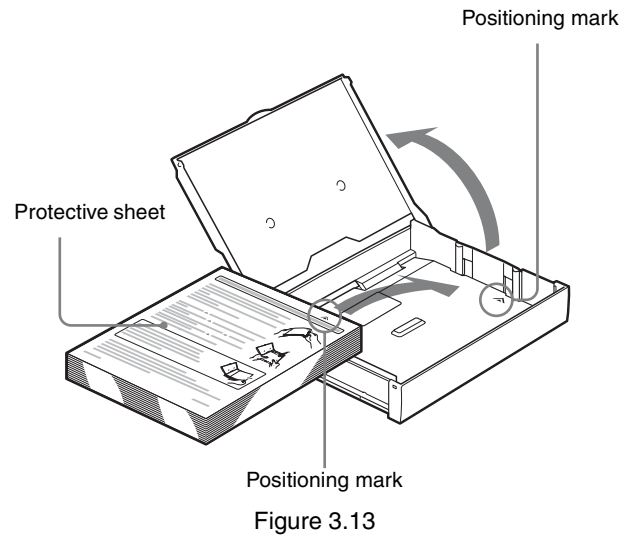

Figure 3.13
- 3 Open the cover of the paper tray. If print sheets remain in the paper tray, remove them. Align the direction of the arrow of the positioning mark on the protective sheet with that of the arrow of the positioning mark on the paper tray, and place the print sheets in the paper tray together with the protective sheet, so that the print surfaces face upward (see Figure 3.13).